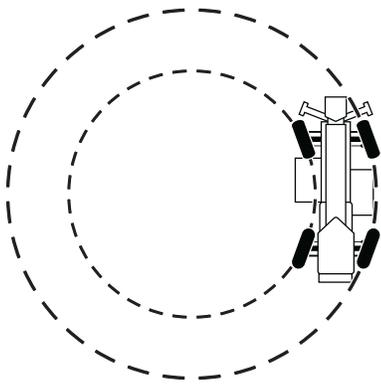

Figure 16 Four-wheel Steering
1. Four-wheel Steering (Figure 16)